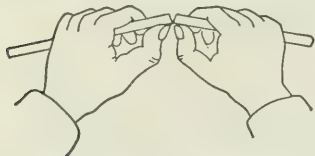

Fig. 2. How to break glass tubing.
**Glass tubing.** To cut a piece of small glass tubing, lay it on the table and make a scratch with a triangular file at the point where it is to be cut. Next take the tube in both hands, placing the thumbs on the side of the tube opposite the scratch. Then press the thumbs against the tube and pull the ends of the tube towards you (Fig. 2).